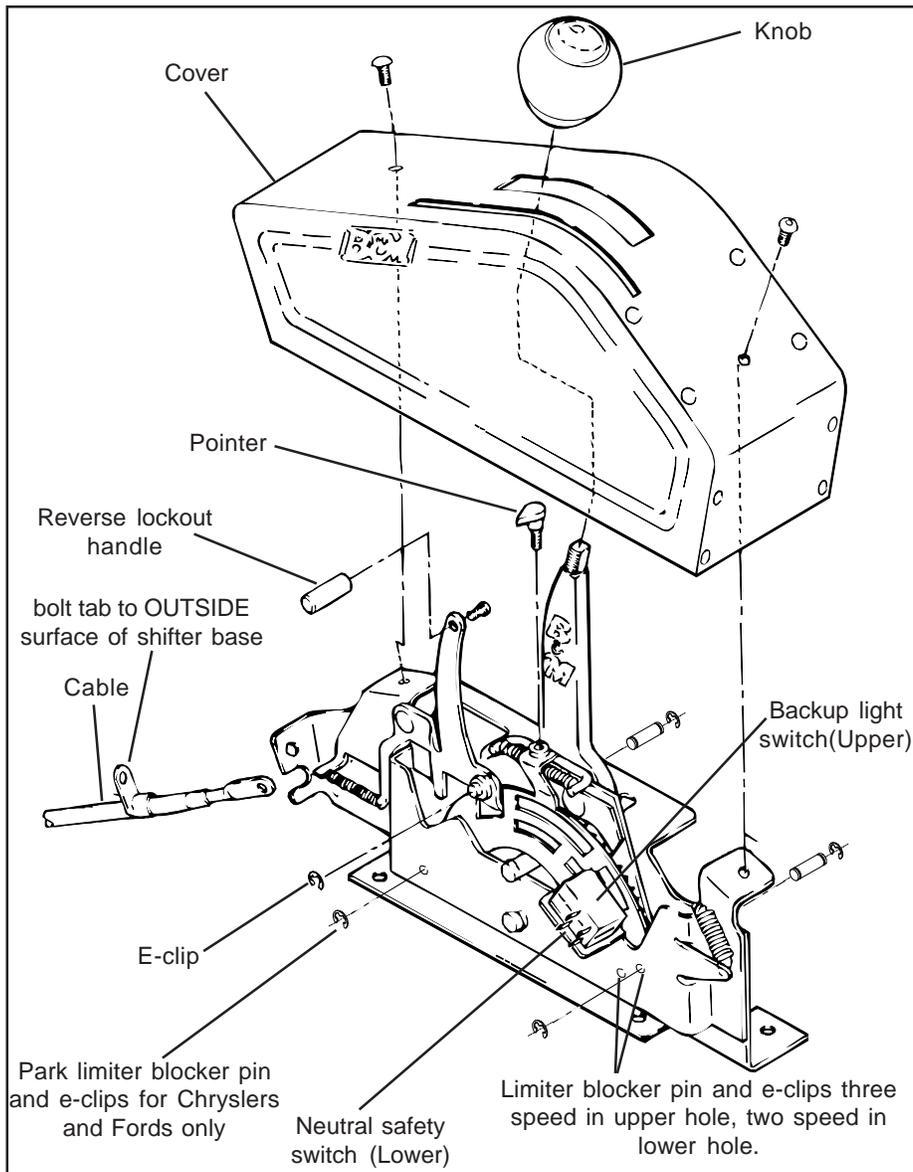

Figure 1
NOTE: If you are installing this shifter with a GM four speed automatic transmission, you must remove the three speed limiter blocker pin and the e-clips indicated in **Figure 1.** Removing this blocker pin gives the shifter four forward positions rather than three. For Ford AOD four speed automatic transmissions and Chrysler A-500 and A-518 four speed automatic transmissions do **not** remove this blocker pin, since these transmissions have only three forward positions. Also do **not** remove the blocker pin
If you are installing this shifter with a Ford or Chrysler three or four speed automatic transmission you must install the Park limiter blocker pin and the e-clips as also indicated in **Figure 1.** This limiter limits the shifter travel into the Park position, so that it does not stretch the cable since Ford and Chrysler transmissions have less travel between Reverse and Park than GM transmissions do.
STEP 5. Install the cable on the shifter as shown in **Figure 1**. The cable attachment tab should be bolted to the outside surface of the shifter base using the supplied 1/4" X 1/2" bolt, lock washer and nut. Install e-clip to secure the cable.
STEP 6. Install the backup light switch and the neutral safety switch in place on the shifter mechanism as shown in **Figure 1**. Install them using the two supplied #4-40 screws, nuts and lock washers. If necessary, bend the fingers slightly so that they engage the slots. **Caution:** Overtightening the switch attachment screws will crack the switch housings.
STEP 11. If you have a four speed automatic transmission, be sure that you have removed the three speed limiter blocker pin shown in **Figure 1**. If you have a three speed automatic transmission, the three speed lim-
chanical interlock, otherwise you have a neutral safety switch. With either type, disconnect the battery ground cable to prevent accidental shorts. If you have a neutral safety switch, locate and identify the neutral safety wires (engine will not crank unless these wires are connected together). Extend the wires from the GM switch to the shifter. Strip a 1/4" of insulation off the wires and install the slip-on terminals supplied in the kit. Crimp the terminals onto the wires using a crimping tool or pliers. Connect the neutral safety wires to the **LOWER** switch and the backup light wires to the **UPPER** switch (See Figure 1). Tape the terminal connections and all other connections to prevent shorts.
STEP 17. Be sure that the Park limiter blocker pin and the three speed limiter blocker pin are both installed as shown in Figure 1. The Park limiter will prevent the shifter from additional travel beyond the Ford Park position. (GM transmissions have greater travel between Neutral and Park than Ford transmissions do). The three speed limiter blocker pin is required because all Ford three and four speed automatic transmissions have only three forward gear positions, even the four speed AOD.
On the C-4 and the C-5 transmissions it is necessary to completely remove the stock neutral safety/backup light switch in order to install the **B&M** transmission shift lever. On the C-4, the C-5 and the C-6 transmissions, it will be necessary to hook up the neutral safety/backup light switches on the **B&M Pro Ratchet Shifter**. Locate and identify the neutral safety (the engine will not crank unless these wires are connected together) and the reverse light wires. Disconnect the battery ground cable before beginning to wire the neutral safety and the reverse light switches. Reroute the wires to the **B&M Pro Ratchet Shifter**. Strip a 1/4" of insulation off the wires and install the supplied slip-on terminals. Crimp the terminals onto the wires using a crimping tool or pliers. Connect the neutral safety wires to the **LOWER** switch and the reverse light wires to the **UPPER** switch (See Figure 1). Tape the terminal connections to prevent shorts. Reconnect the battery ground cable, disconnect the coil wire and set the parking brake. Check the switch operation by attempting to start the motor in each shifter position. **The starter must crank only when the shifter is in the Park or the Neutral posi-**
STEP 22. Be sure that the Park limiter blocker pin and the three speed limiter blocker pin are both installed as shown in **Figure 1**. The Park limiter will prevent the shifter from additional travel beyond the Chrysler Park position. (GM transmissions have greater travel between Neutral and Park than Chrysler transmissions do). The three speed limiter blocker pin is required because all Chrysler three and four speed automatic transmissions have only three forward gear positions, even the four speed A500 and A518.
STEP 24. Neutral safety/backup light switch. '66-'68: The neutral safety switch will continue to function normally. It will not be necessary to hook up the neutral safety switch wires on the shifter. Disconnect the battery ground cable before wiring the backup light switch. Locate the original backup light switch on the steering column or the console shifter. Run these wires to the **UPPER** switch on the **B&M Pro Ratchet Shifter (See Figure 1)**. Reconnect the ground wire and check the light for proper operation. Adjust the switches on the shifter if required.
STEP 35. Be sure that the two speed limiter blocker pin and e-clips are installed as shown in **Figure 1**. The two speed limiter blocker pin is required because the Powerglide has only